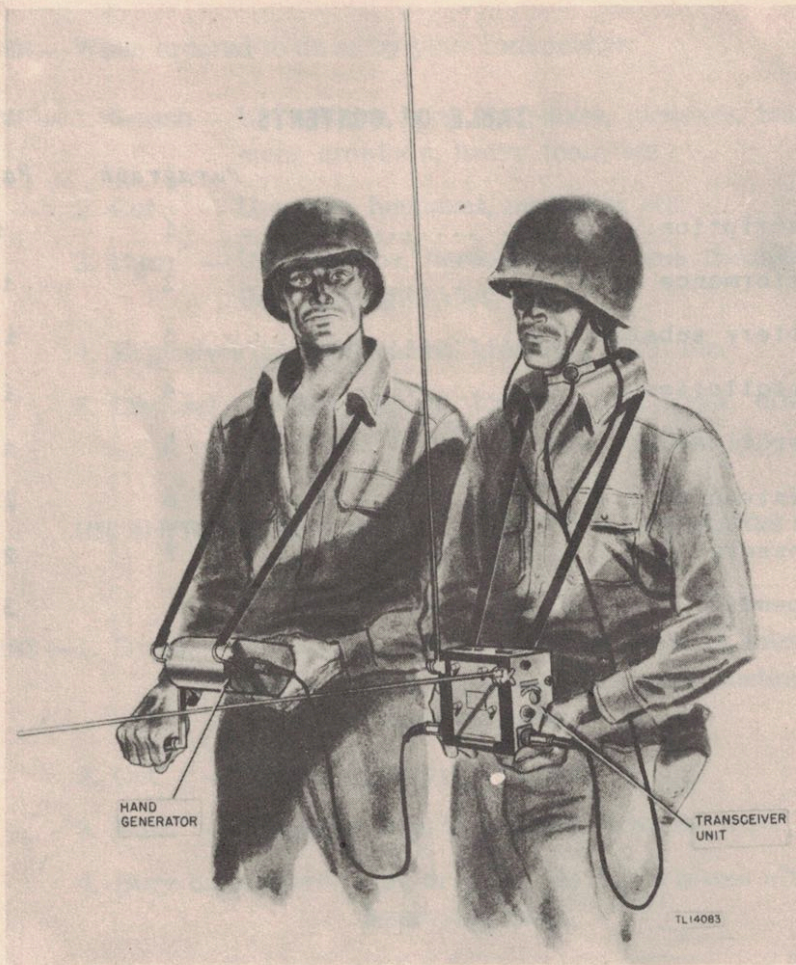
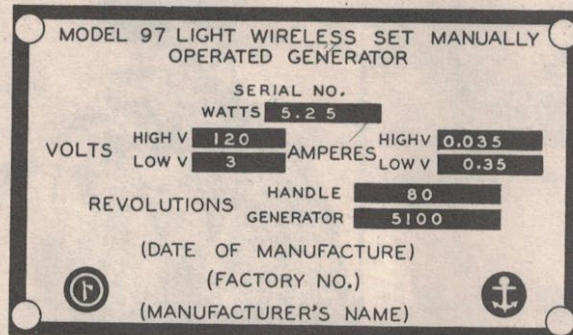
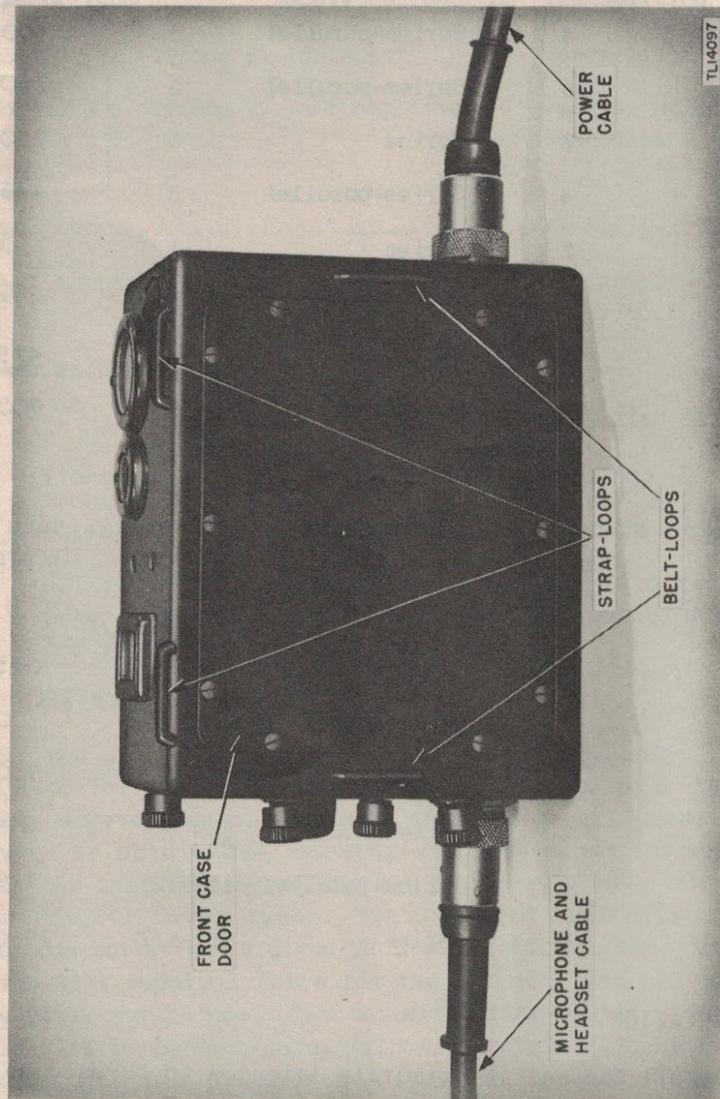

Figure 1. Japanese Radio Set Model 97 Light Wireless Set, portable operation by two men.
Figure 5. Japanese Radio Set Model 97 Light Wireless Set, portable operation by one man.
Figure 12. Japanese Radio Set Model 97 Light Wireless Set, front view.
b. Power Supply. Power may be supplied to the set either by a hand generator or by a battery pack. The use of the hand generator to supply power, requires two men for operation of the set (fig. 1). When it is desired that the set be transported and operated by one man (fig. 5), a battery pack is used to supply power.
a leather strap passed around the neck and fastened to the set through two strap-loops on the case. When a battery pack is used to provide the power supply, one man can carry and operate the entire set (fig. 5). If American type batteries are used to make up the battery pack, it may be necessary to discard the Japanese carrying case because of size limitations. If so, carry the battery pack in a musette bag or similar type of case. Two belt-loops (fig. 12) on the front of the transceiver unit case enable the operator to strap the set close to his body and prevent excessive movement during portable operation. For operation of the set as a fixed installation, the transceiver unit is placed on a firm supporting structure and the hand generator, if used, is mounted on a supporting stand by means of the base plates.